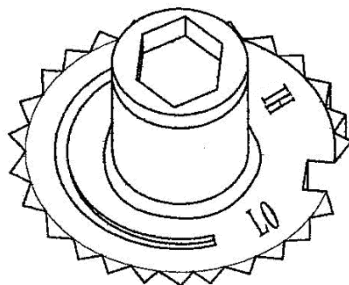

Figure 5
15. Make sure you see the red ring of the screw in the case of a conversion of NG to LPG. See Figure 5